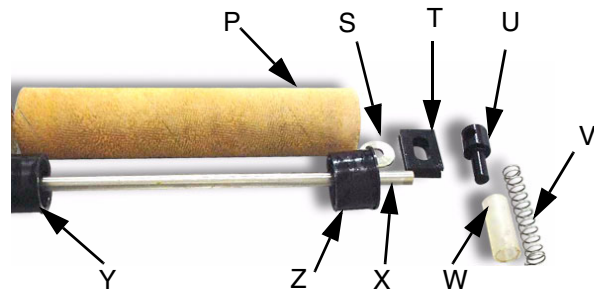

FIG. 3
5. Pull off spring retainer (U), spring cover (W), spring (V), axle support (T), and washer (S). See FIG. 3.
7. Remove end bearing (Z), roller (P), and center bearing (Y) from axle (X).